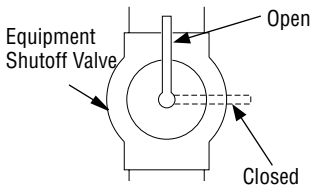

Figure 14 - Equipment Shutoff Valve
1. Close equipment shutoff valve (*see Figure 14*).
1. Open equipment shutoff valve (see **Figure 14**).